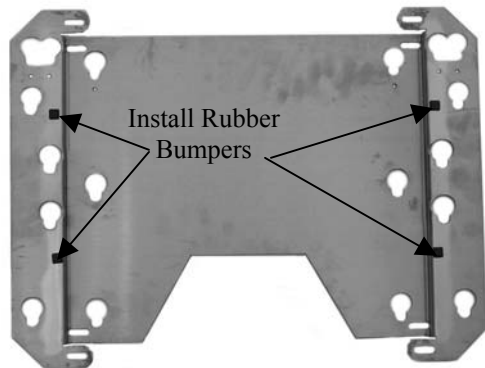

Figure 12
4. Install four rubber bumpers (see Figure 12).